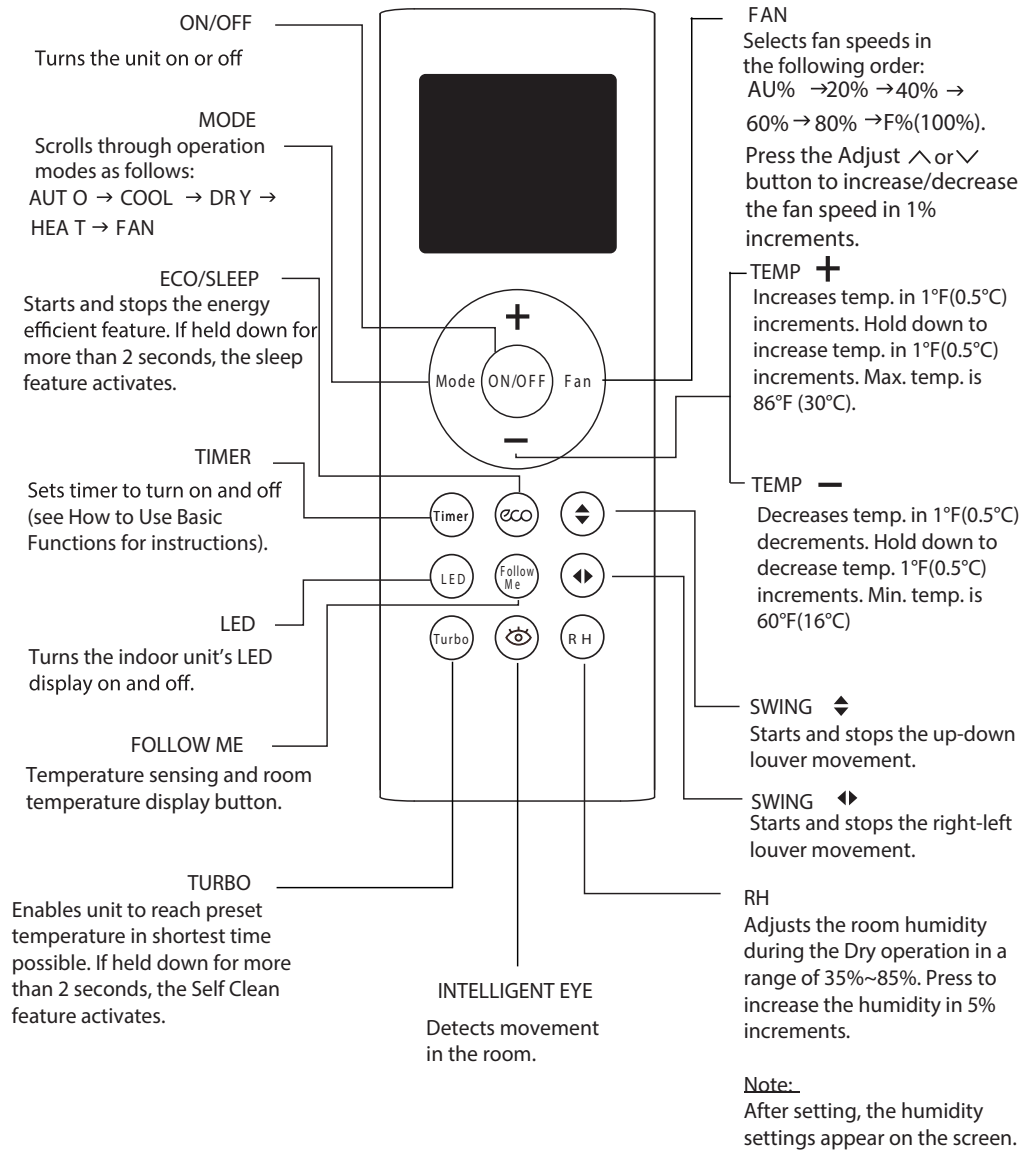

Fig. 3 – Remote Controller
6. Set the airflow direction. When the unit is turned on, the louvers default to the cooling or heating position. The user can adjust the louver position or initiate continuous louver movement by pressing **Up-Down Louver SWING** (see Fig. 3).